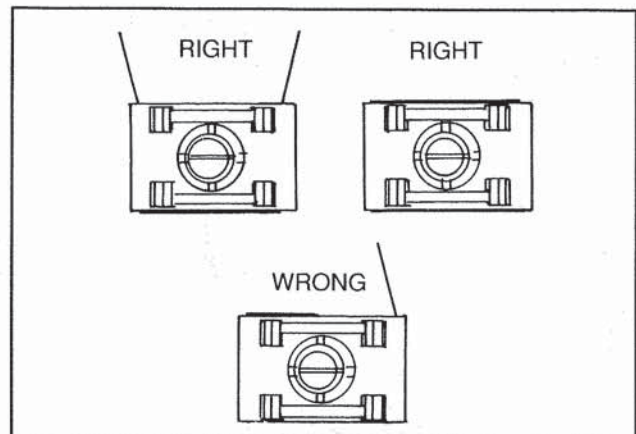

Figure 22
- I. **GLASS DOORS.** When not burning the fireplace, Glass Doors will prevent loss of room heat through the chimney. See Figure 22 for the recommended door positions during operation.